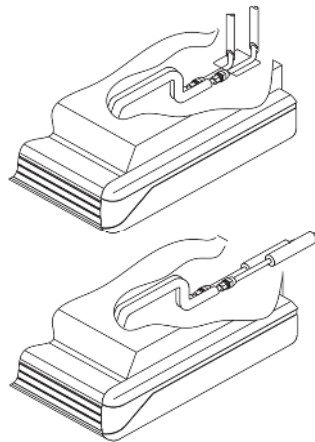

Figure 23
- (2) Water piping can enter the unit from the bottom or back of the unit. Figure 23 (Horizontal Discharge Configuration) and 24 (Vertical Discharge Configuration)
- (3) The water coil's supply and return lines are copper stub outs. They can be connected to the system's loop by brazing or mechanical connectors. Check prevailing codes for the correct type of connection to be used.
- (4) Ensure the supply and return lines of the building's water loop are installed on the correct stub outs inside the unit. The stub outs are labeled supply and return.
- (5) When brazing/soldering the copper lines, use extreme caution as to not burn the surroundings. Use a wet rag in either side of the braze joint to ensure the heat will not travel past the brazing point.
- (6) Ensure the water lines are insulated properly to safeguard against sweating and leaking into the unit or the surrounding structure.
- (7) Water leak test all brazed/soldered or mechanical connectors to ensure there are no leaks.